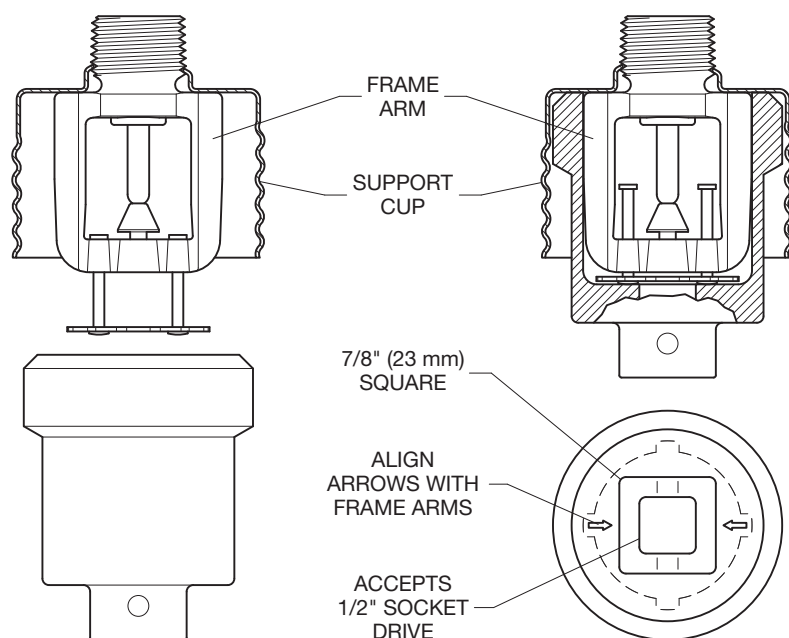

FIGURE 3
Step 4. Wrench-tighten the sprinkler using only the RFI Sprinkler Wrench. (Refer to Figure 3.) Apply the RFI Sprinkler Wrench to the Sprinkler as shown in Figure 3.